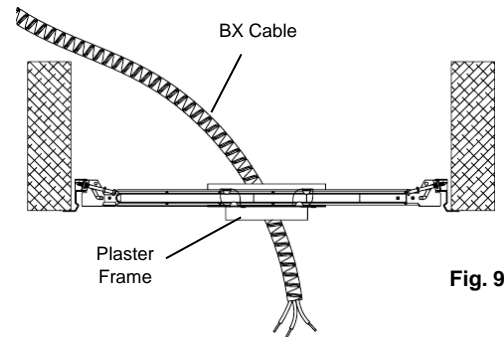

Fig. 9
3. Run armored cable (BX) or non-metallic (NM) cable (also known as Romex) from your circuit breaker or fuse panel to the plaster frame hole, providing 6" (15,3 cm) to 8" (20,3 cm) of slack extending below the hole. Cable having up to 12 AWG wiring may be used. (Fig. 9) **(WARNING - Use cables having wires rated 90°C or more.)**